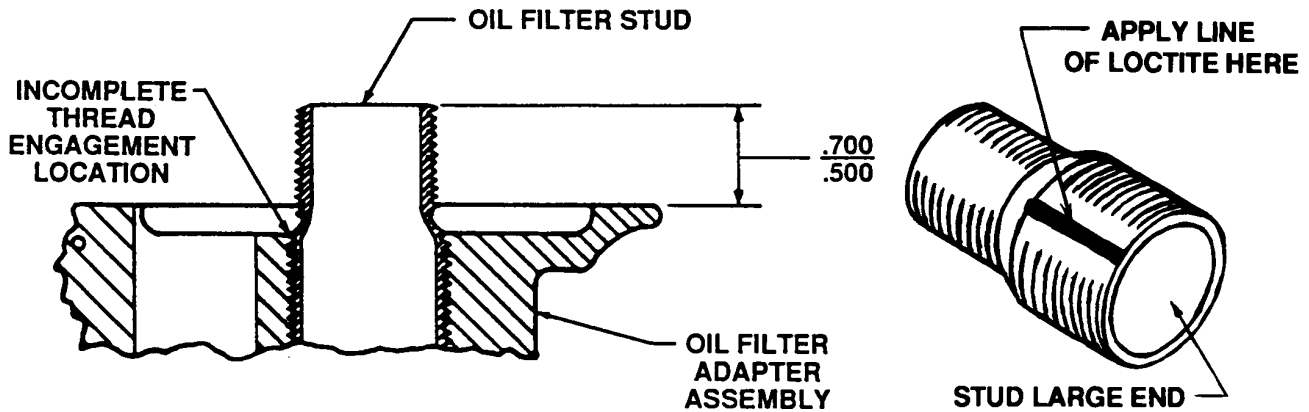

Figure 18-6
2. If the old stud is found to be loose or installed beyond the stud setting height specified in Figure 18-6, "Oil Filter Adapter Stud Inspection." Install new stud in accordance with the following procedure:
- e. Apply a line of Loctite 271 (TCM P/N 646941) along the large threads (.8125-16 end) of the stud and install into the adapter finger tight to 30 inch pounds torque. Check for proper stud extension height in accordance with Figure 18-6," Oil Filter